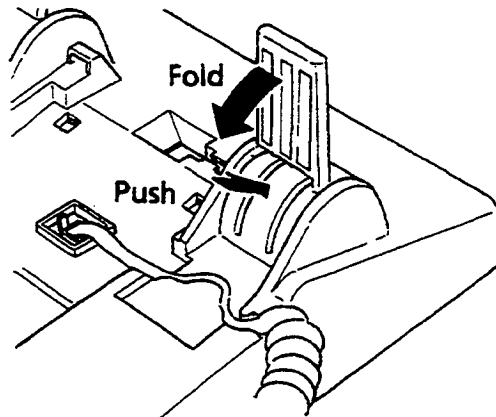

Figure 1-54 Folding the Legs of the Tilt Stand
- c. Fold the legs toward the body of the telephone. (Refer to Figure 1-54 - Folding the Legs of the Tilt Stand.)